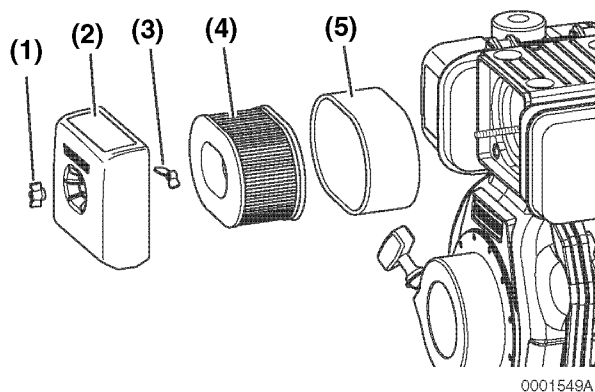

Figure 5-8
1. Remove the wing nut (**Figure 5-8, (1)**).
2. Remove the air cleaner cover (**Figure 5-8, (2)**).
3. Remove the wing nut (**Figure 5-8, (3)**).
4. Remove the air cleaner element (**Figure 5-8, (4)**) and outer foam element (**Figure 5-8, (5)**).
8. Clean the inside of the air cleaner cover (**Figure 5-8, (2)**).
9. Reinstall the air cleaner element (**Figure 5-8, (4)**) into the air cleaner housing.
10. Slide the outer foam element (**Figure 5-8, (5)**) over the air cleaner element (**Figure 5-8, (4)**).
11. Reinstall the wing nut (**Figure 5-8, (3)**) and hand-tighten. Over-tightening the wing nut will damage the air cleaner assembly.
12. Reinstall the air cleaner cover (**Figure 5-8, (2)**).
13. Reinstall the wing nut (**Figure 5-8, (1)**) and hand-tighten. Over-tightening the wing nut will damage the air cleaner assembly.